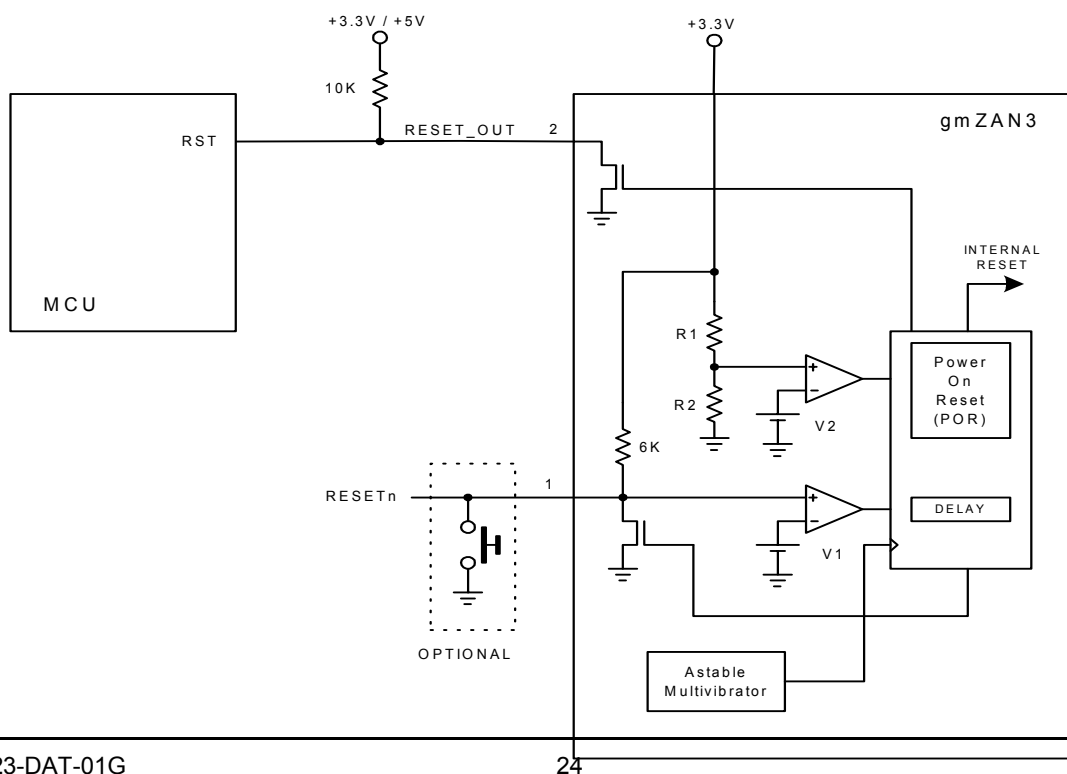

Figure 10. gmZAN3 Re-setting External MCU
1. In figure 10, the gmZAN3 RESET_OUT signal resets the external MCU during power-up. An optional push button allows the user to reset the entire system.